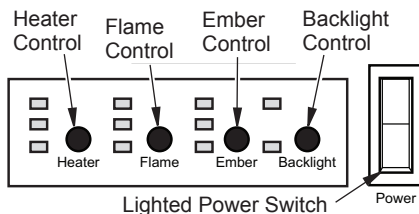
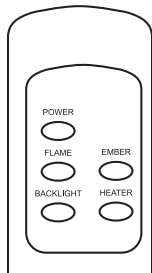

Figure 6 - Controls For Electric Fireplace
Figure 7 - Remote Control For Electric Fireplace
The controls (see Figure 6) are located behind hinged control panel door. If using heater, control panel door will be hot during and immediately after operation. Open door by pressing on right side. A spring magnet will push door forward. Pull door down to open.
1. Connect fireplace to power source. Turn on lighted power switch (see Figure 6).
2. Adjust Flame/Ember/Backlight/Heater to desired settings using the control pad on fireplace (Figure 6) or remote control (Figure 7, page 8). Figure 8, page 8, shows fireplace settings available. Default settings are circled. Press control pad or remote control buttons once and release to adjust settings.